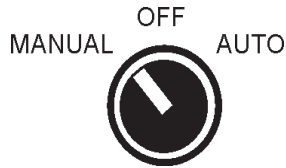

Figure 9. Manual-Off-Auto SW. (Manual Position)
2. For manual operation of the pump, place the 3-position operation switch (Figure 9) on the control box in the **MANUAL** position.